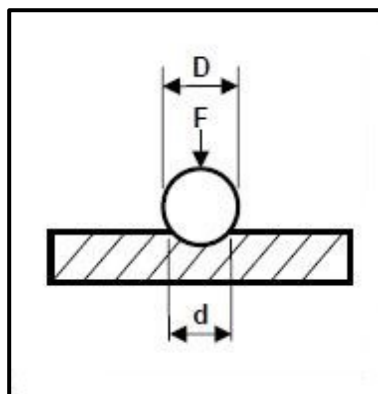

FIGURE 4.7
4.7 What does the symbol 'F' denote in the Brinell hardness test shown in FIGURE 4.7 below?